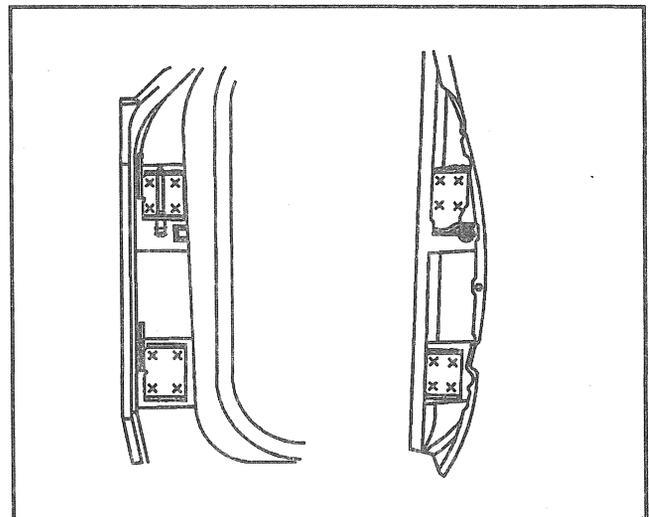

Figure 15—Spot Weld Locations
↔ Remove or Disconnect (Figures 15 through 17)
- B. Center punch each of the weld marks on the original hinge (Figure 15). It is critical to punch the center of the weld so that the all of the weld is removed during drilling.